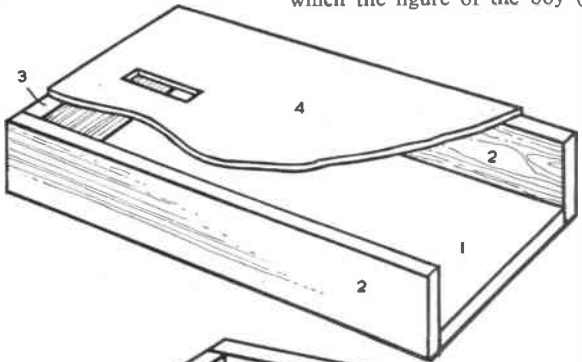

Fig. 1
The first stage is shown in Fig. 1. Here the base (piece 1) is glued between the side pieces (2) and piece 3 is next added on to piece 1 and between pieces 2. Piece 4, which is shown cut away, is next glued on top. Note that the mortise, in which the figure of the boy (piece 15)
will later be added, is positioned at the closed end of the base as shown in Fig. 1.